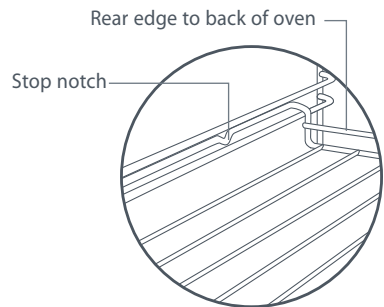

Fig. 13 Location of stop notch
- The oven shelves and the grill/roast pan have a 'stop notch' so that you do not accidentally pull them right out of the oven. Make sure you put the stop notch towards the back of the oven, as shown in Fig.13.